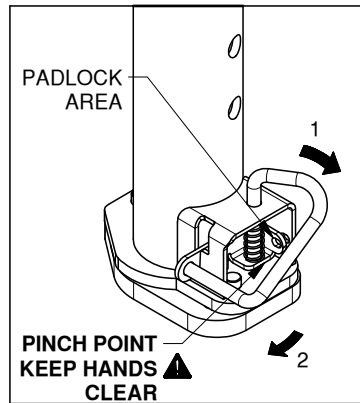

Figure B2: Coupler in "latched" position
3. **Lower the trailer.** Slowly lower the trailer onto the ball. When the ball is fully engaged in the coupler, set the coupler to the "latched" position. To do this: (1) Grip the handle and rotate it clockwise. (2) Rotate the coupler bottom plate clockwise until the latch pin is through the coupler bottom plate and the handle is flat against the bottom of the handle guide. See Figure B2.
4. **NOTE:** If desired, it is possible to lock the coupler for added security. With the coupler handle in the "latched" position, use a padlock in the area noted in Figure B2.